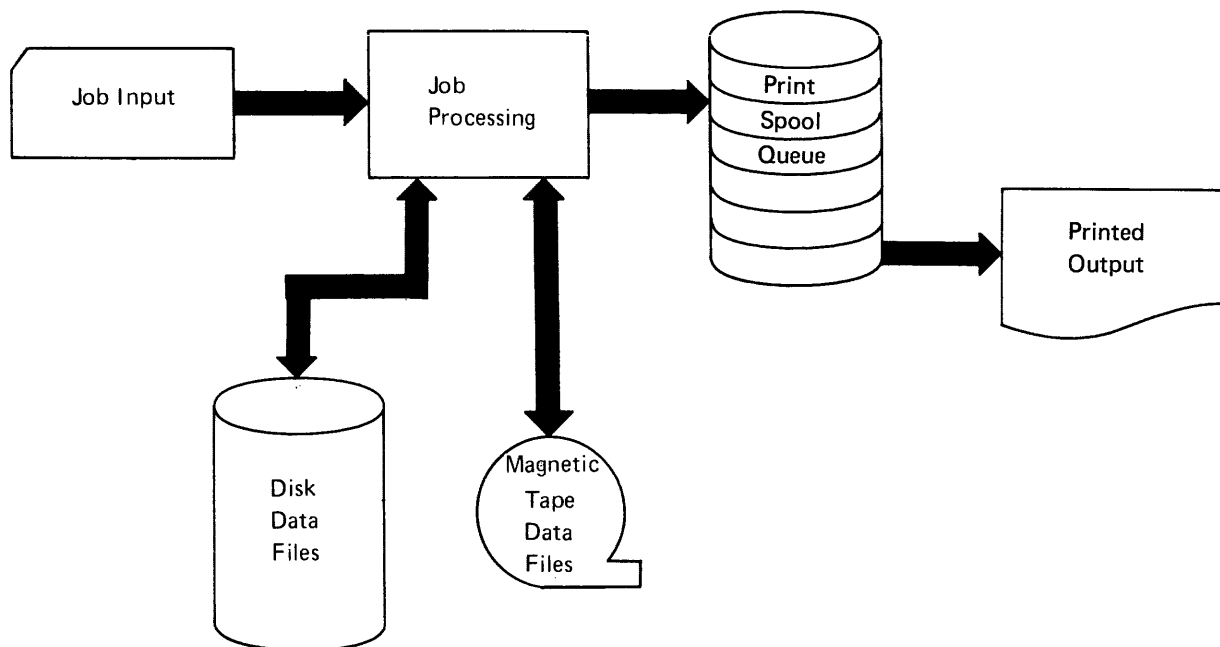

Figure 2. Processing with Print Spooling
- If the printer becomes inoperative, or is busy, the processing unit continues processing and storing the output data in a print queue. When the printer is again available, the spool print writer program gets the data from the file and causes it to be printed (Figure 2).